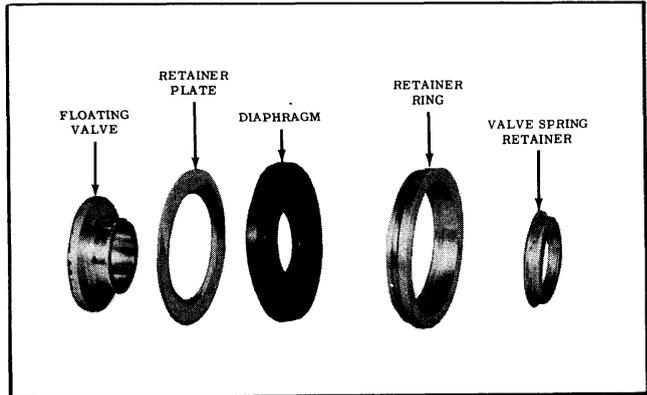

Fig. 7-21 Floating Valve Assembly
- b. small screw driver. (See Fig. 7-21)